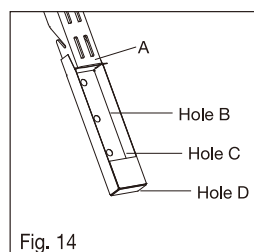

Fig. 14
- ☐ Align the drilling template box (O) as a locator as shown and mark the holes on the wall (see Fig. 14).